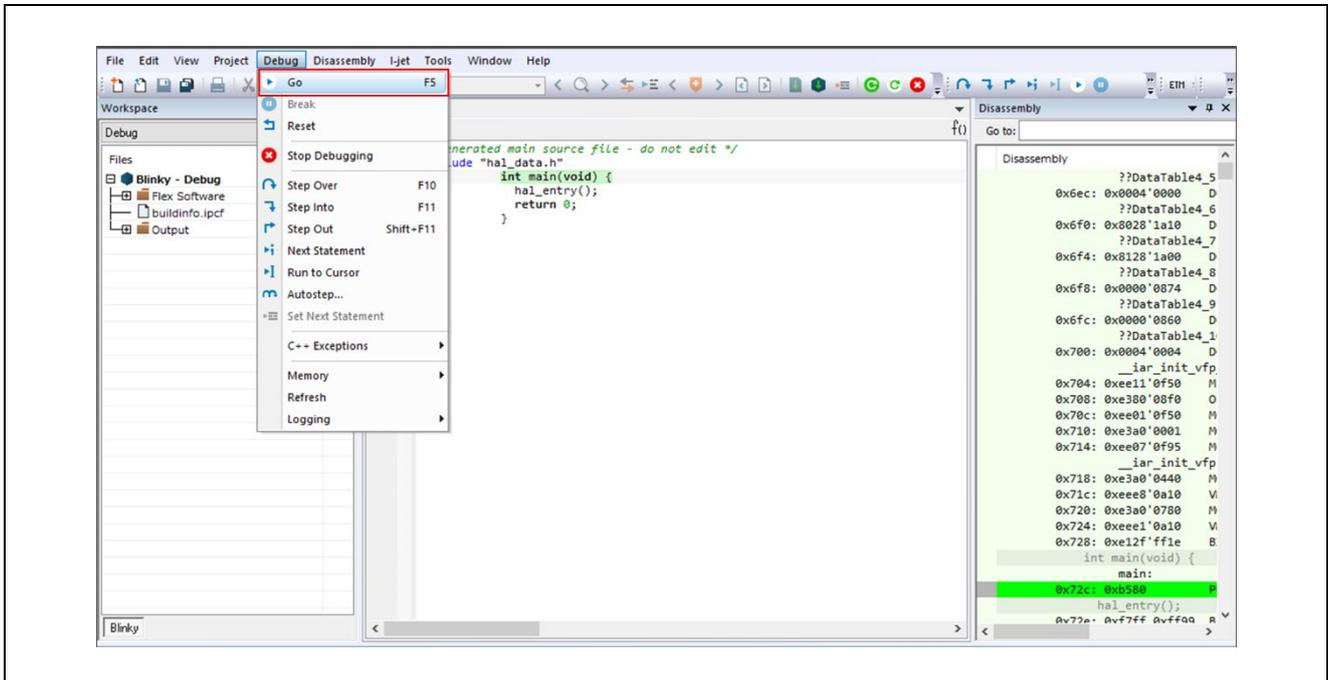

Figure 81. Go Button
5. Run the program of the primary project as shown in Figure 81 to copy the binaries of the secondary and subsequent projects to the internal RAM in the primary project. After the primary project reaches **hal_entry** in **main.c**, another core is executed. If the LEDs are blinking, proceed to the next step.